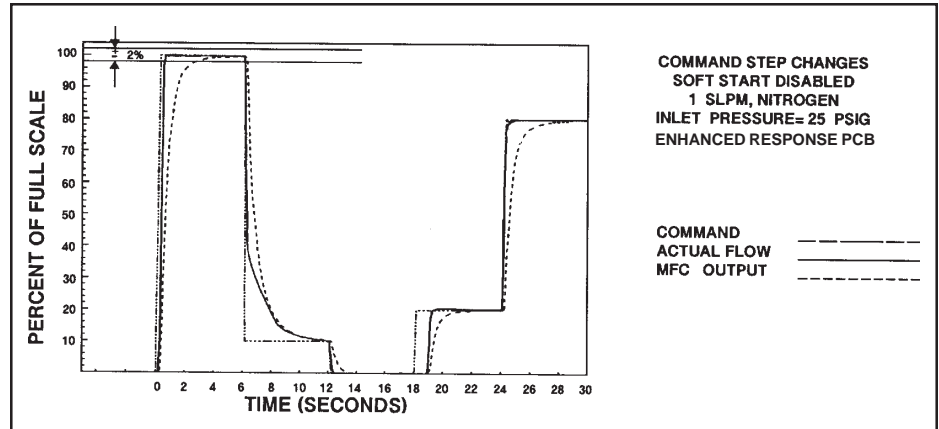

Figure 3-10 Command Steps, Soft Start Disabled
**Soft Start** (Refer to Figures 3-10 and 3-11)